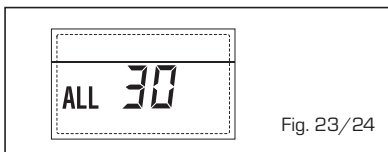

Fig. 23/24
- **ANOMALIA Sonda DESCARGA CASCATA "ALL 31"** (fig. 23/25)